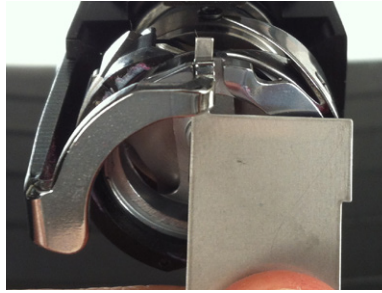

Figure 5 – Retaining Finger Gauge Usage
- Inspect the left-to-right position of the tip of the hook support (the portion of the hook support that is positioned inside the notch of the rotary hook – see Fig. 5) as it aligns to the needle. It should be centered left-to-right. If not, it may be necessary to bend the hook support to the correct alignment by hand (without tools), being careful not to scratch the highly polished surface. If this is not possible, you may need to replace the hook support (PN: 33046).